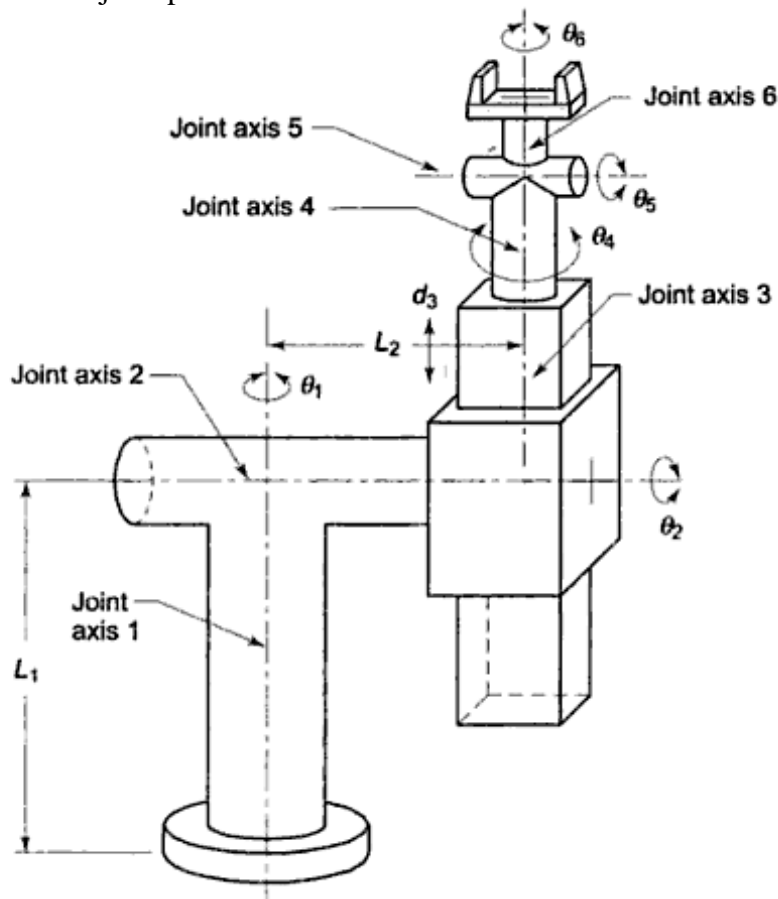

Figure 1. Stanford manipulator.
- Q.1 (a)** Consider Stanford manipulator shown in figure 1. Using D-H notation **07**